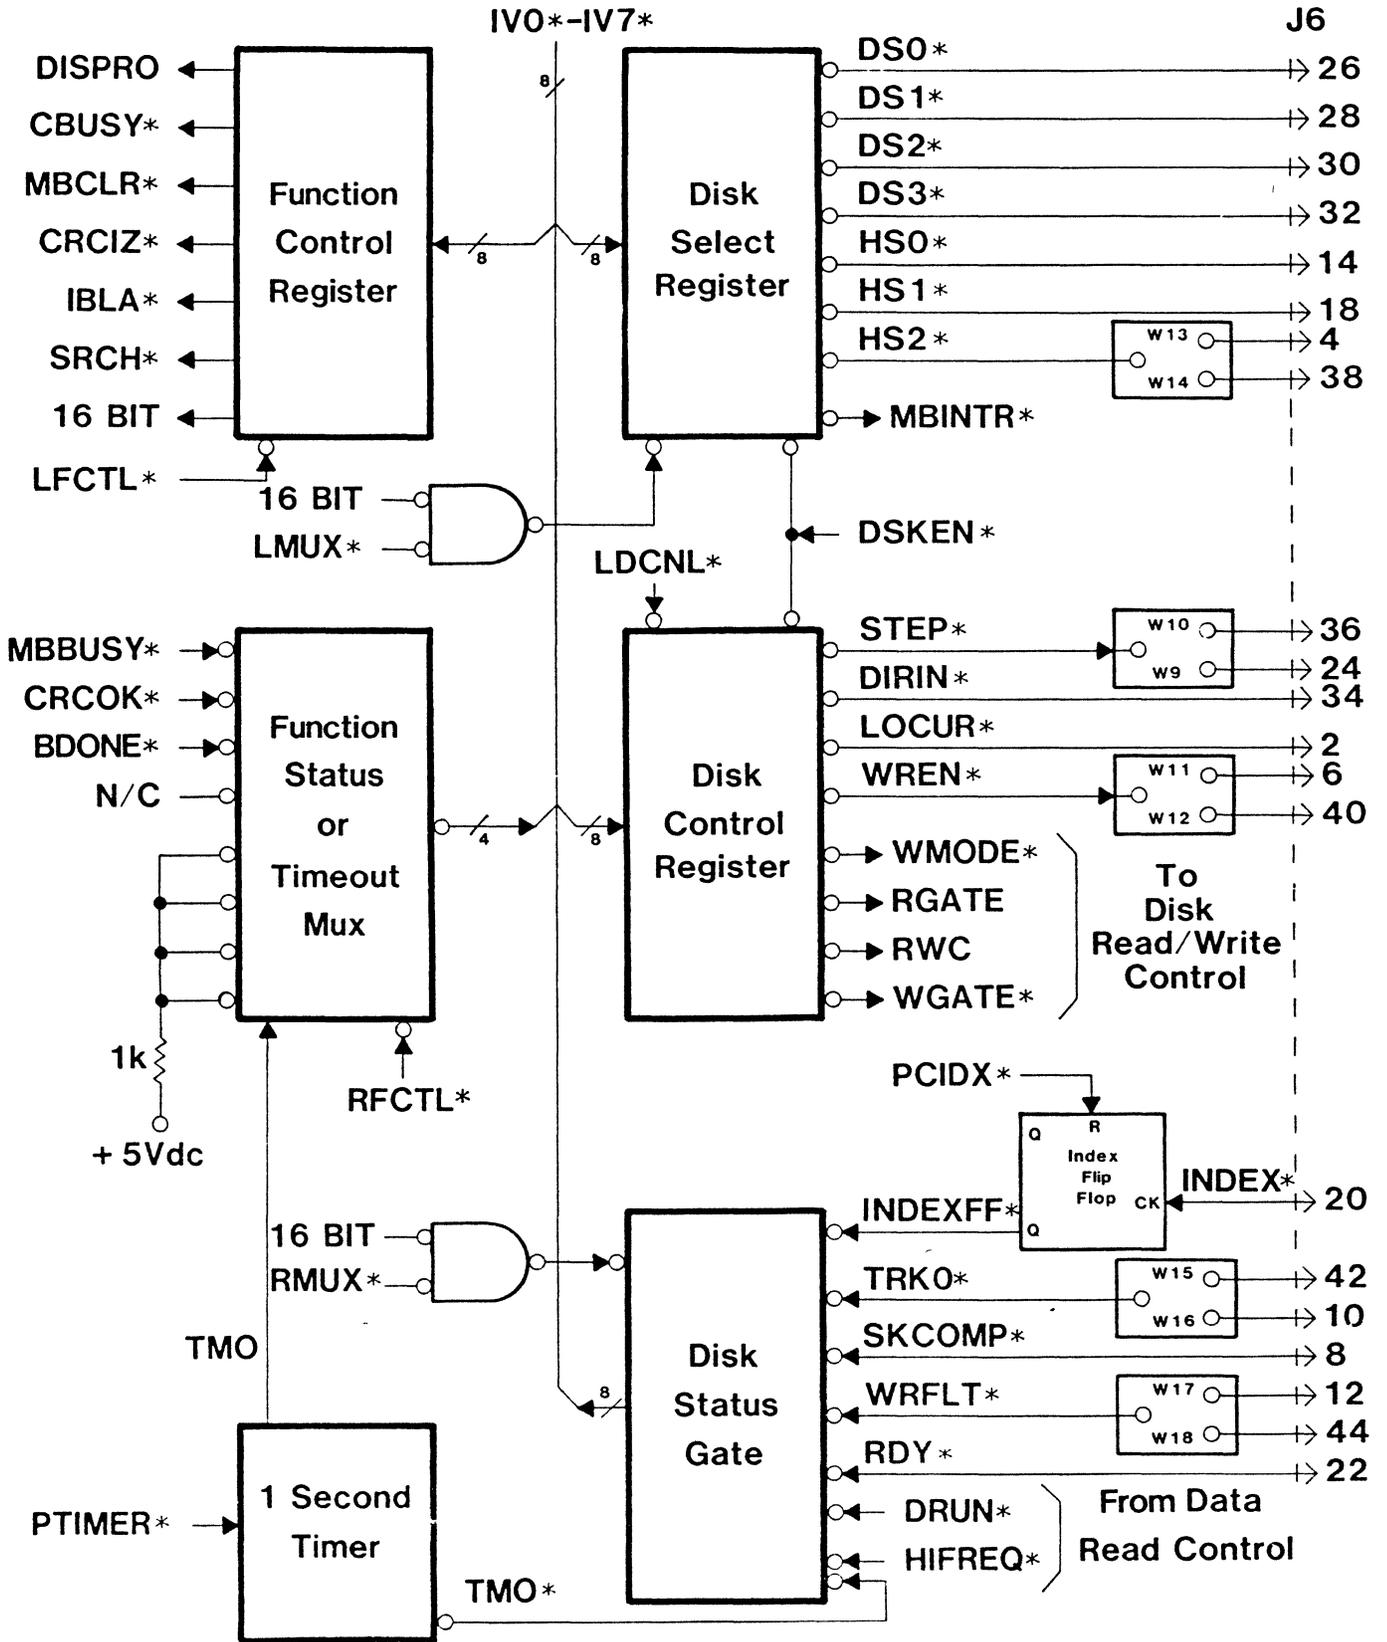

Figure 3-4 – Control and Status Block Diagram
3.33 Figure 3-4 illustrates the internal WDC status and control registers and transfer gates in block diagram. The *Disk Select Register*, *Disk Control Register*, and *Disk Status Gate* connect directly to the Winchester Drive by the disk status and control cable.